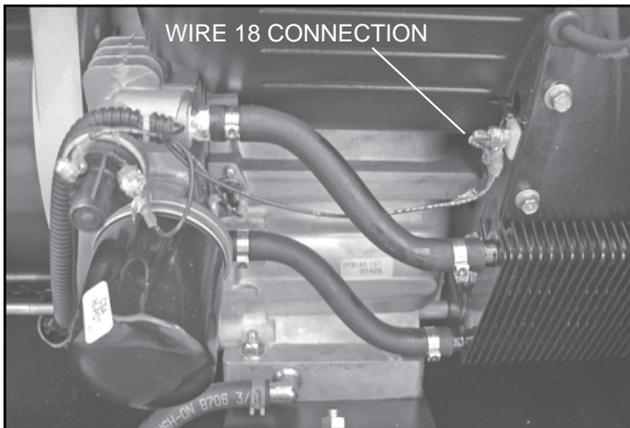

Figure 32. Wire 18 Connection 10-20 kW Units
1. On V-twin generators, remove Wire 18 from the stud located above the oil cooler. On single cylinder generators, disconnect Wire 18 at the bullet connector. See Figures 32 or 33.